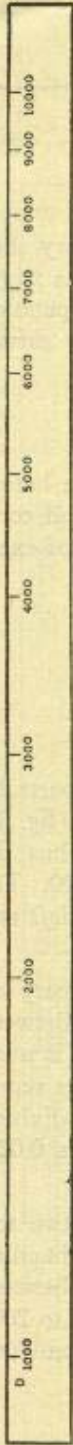

Figure 3. Skeleton D scale.
*a. PRIMARY DIVISIONS.* The D scale is divided into nine parts by primary divisions numbered 1000, 2000, 3000, and up to 10000 (fig. 3). Each of these divisions represents the first digit of a number. Thus, the division numbered 3000 stands for 0.003, 0.03, 3, 30, or 3,000. The primary divisions numbered 1000 and 10000 are known as the *left* and *right indexes* of the scale.
*c. TERTIARY DIVISIONS.* (1) Finally, the space between any two secondary divisions is divided by *tertiary* divisions which aid in obtaining the third digit of a number. The number of tertiary divisions between adjacent secondary divisions varies along the scale. From 1000 to 2000 there are 10 divisions; from 2000 to 4000, 5 divisions; and from 4000 to 10000, 2 divisions.